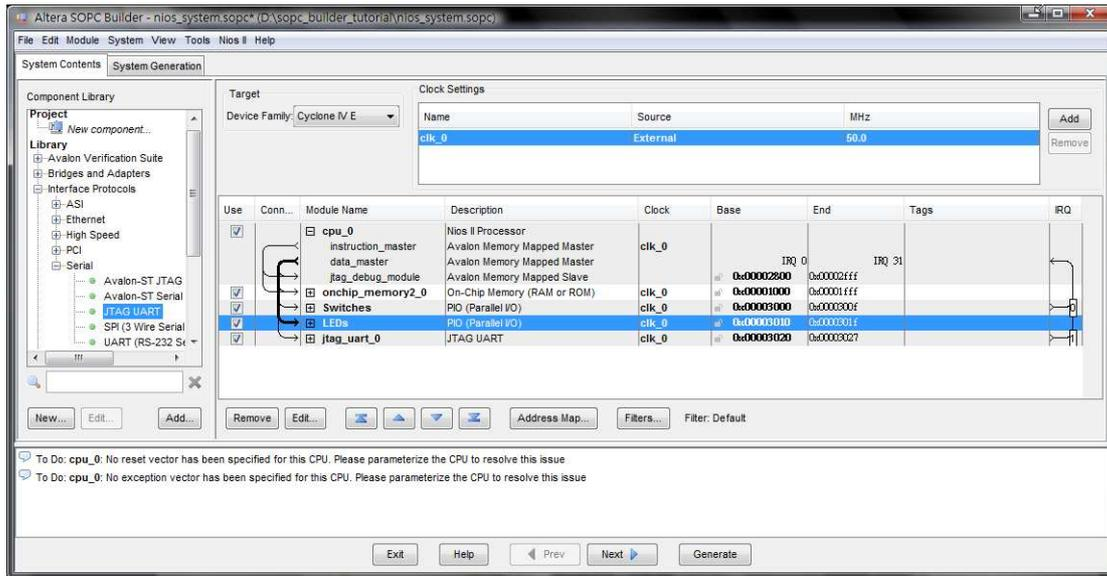

Figure 14. The final specification.
11. The base and end addresses of the various components in the designed system can be assigned by the user, but they can also be assigned automatically by the SOPC Builder. We will choose the latter possibility. So, select the command (using the menus at the top of the SOPC Builder window) **System > Auto-Assign Base Addresses**, which produces the assignment shown in Figure 14.
A parallel I/O interface generated by the SOPC Builder is accessible by means of registers in the interface. Depending on how the PIO is configured, there may be as many as four registers. One of these registers is called the Data register. In a PIO configured as an input interface, the data read from the Data register is the data currently present on the PIO input lines. In a PIO configured as an output interface, the data written (by the Nios II processor) into the Data register drives the PIO output lines. If a PIO is configured as a bidirectional interface, then the PIO inputs and outputs use the same physical lines. In this case there is a Data Direction register included, which determines the direction of the input/output transfer. In our unidirectional PIOs, it is only necessary to have the Data register. The addresses assigned by the SOPC Builder are 0x00003000 for the Data register in the PIO called Switches and 0x00003010 for the Data register in the PIO called LEDs, as indicated in Figure 14.